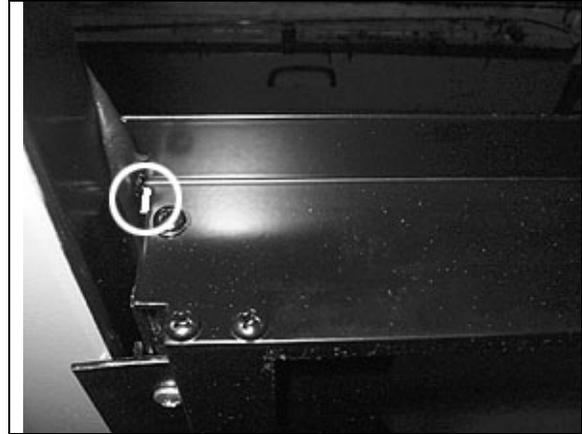

FIGURE 70: AWNING WINDOW – SEAL THE CHINK
- Using Sika 252 or 255, seal the chink between the structure vertical member and the awning window, both sides (Figure 70).